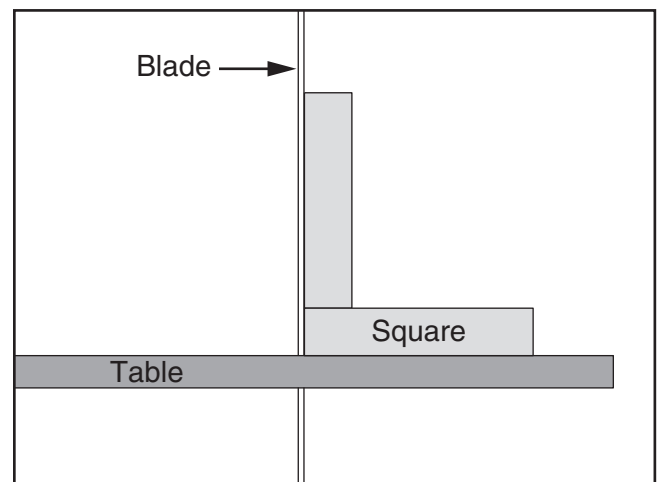

Figure 80. Squaring table to blade.
3. Loosen the guide post lock knob, raise the guide post, lock it in place, then place a machinist's square on the table next to the side of the blade as illustrated in **Figure 80**.